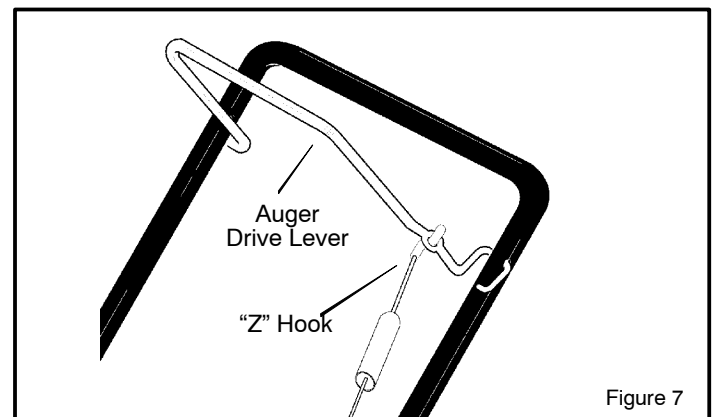

Figure 7
1. To stop throwing snow, release the **auger drive lever**. (See Figure 7).
1. Engage the **auger drive lever**. (See Figure 7).
1. Hold the **auger drive lever** against the **handle** (See Figure 7). The auger will begin rotating.